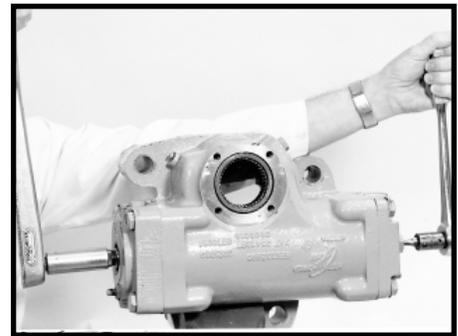

Figure 150
44. With the rack piston (29) in its center position, torque the worm shaft/input shaft adjusting screw (38) using a 5/16 inch Allen wrench socket into solid height (15 to 20 ft. lbs. [20.3 to 27.1 N m]). Then loosen the adjusting screw 1/4 to 1/2 turn and note torque required to rotate worm shaft/ input shaft (16) through 90° each side of center, using a 12 point socket that will fit input shaft serrations and an appropriate torque wrench. SEE FIGURE 150. Loosen adjusting screw if noted input shaft torque exceeds 15 in. lbs. (17 N m). Return rack piston to center position.